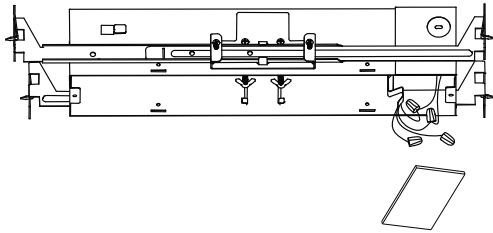

Fig. 4
4. Reference correct wiring diagram and make proper electrical connections at the J-box in the metal housing (Figures 4 & 5).